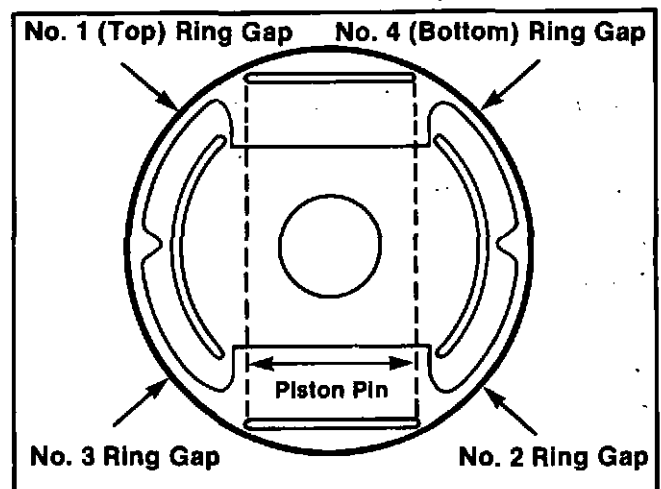

Fig. 14-14. Alignment Of The Piston Rings.
2. Make sure the ring gap of each ring is not in alignment with the piston pin or with any other ring, Fig. 14-14. Install the two-piece oil control ring so that the gap of the expander is 180 degrees from the gap of the ring.